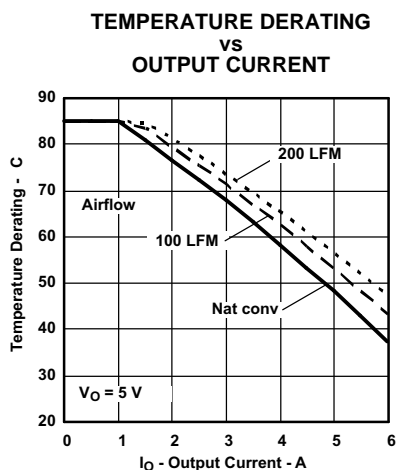
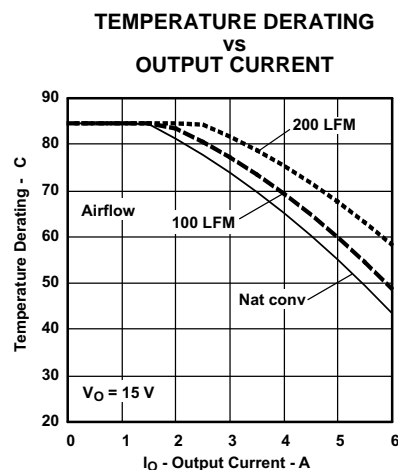

Figure 14.
Figure 16.
- (2) The temperature derating curves represent the conditions at which internal components are at or below the manufacturer's maximum operating temperatures. Derating limits apply to modules soldered directly to a 100 mm x 100 mm double-sided PCB with 2 oz. copper. Applies to Figure 14 through Figure 16.